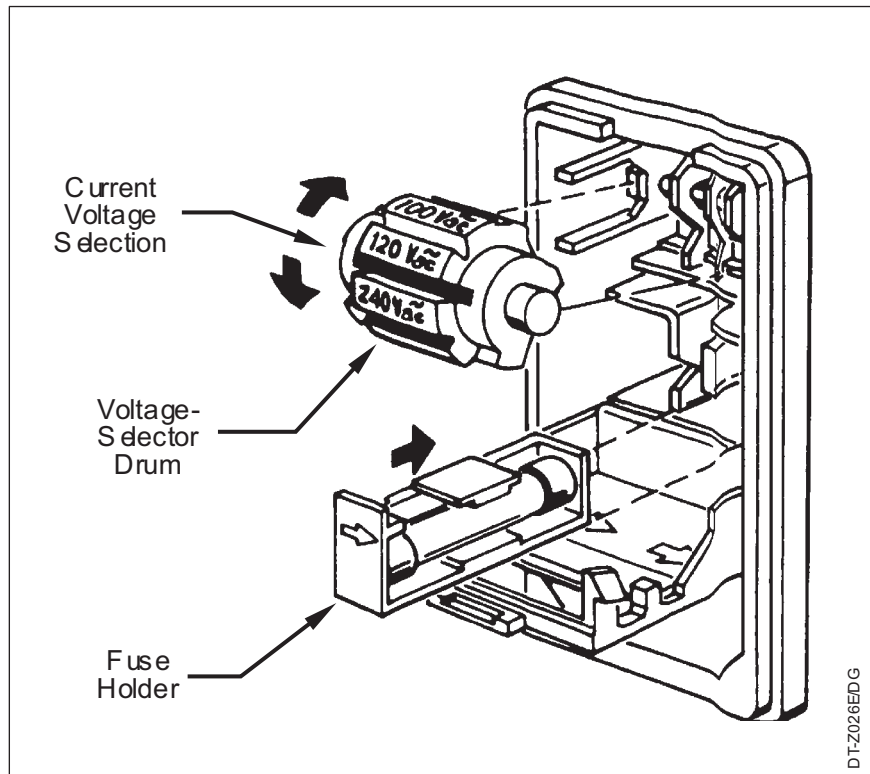

Figure 1.2 Voltage selector barrel and fuse holders
3. Remove the voltage selector barrel from the detector. The selector resembles a wheel with four settings: 100, 120, 220, and 240 V (Figure 1.2).
1. Pull each fuse holder straight towards you. The fuse holders are the black squares with arrows located directly beneath the voltage selector (Figure 1.2).